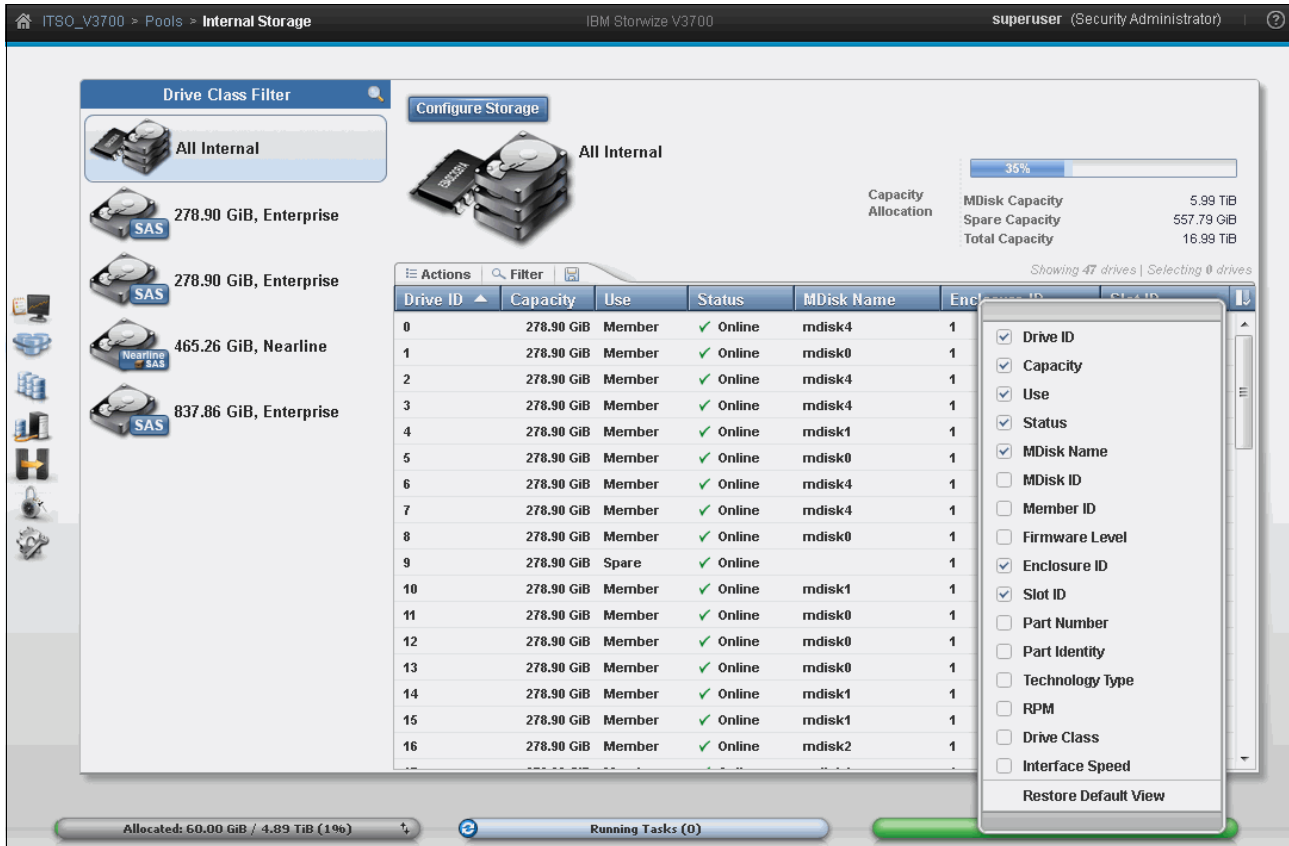

Figure 7-3 Internal storage window details selection
- You can see more details, for example the drive's Technology Type, by right-clicking the blue header bar of the table, which opens the selection pane, as shown in Figure 7-3.